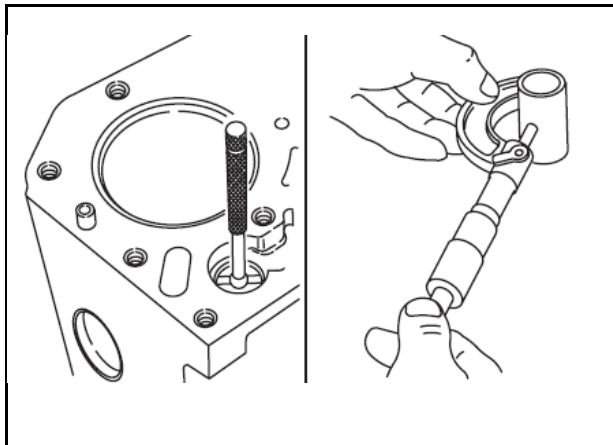

Fig.4-Checking Valve Lifter And Bore
4. Check valve lifter bore, Fig. 4.
5. Check valve lifter, Fig. 4.